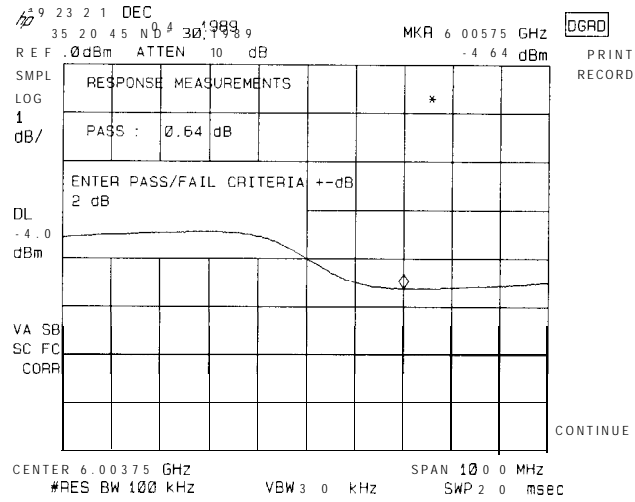

Figure 3-9. Compared Response
- After the response comparison, the Log scale is adjusted to give best resolution to the response difference and PASS or FAIL is displayed on the screen. See Figure 3-9.